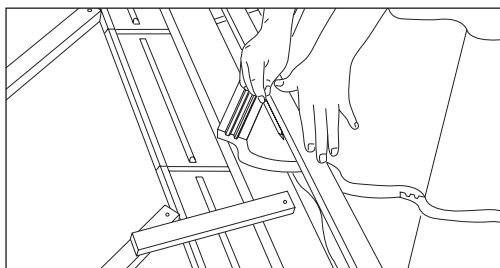

Fig 58 – Scribe roof tiles to cut in use with valley
- Timber also provides correct scribing line for mitred cutting of tiles adjacent to valley (Fig 58).